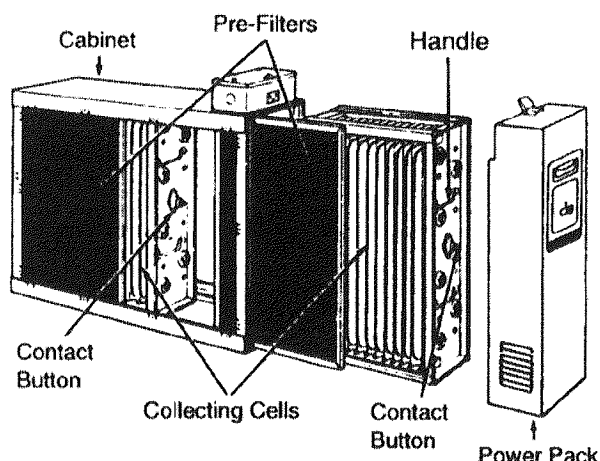

Figure 20
11. **With the cabinet installed**, reinstall pre-filter(s) and collecting cell(s) (Figure 20).